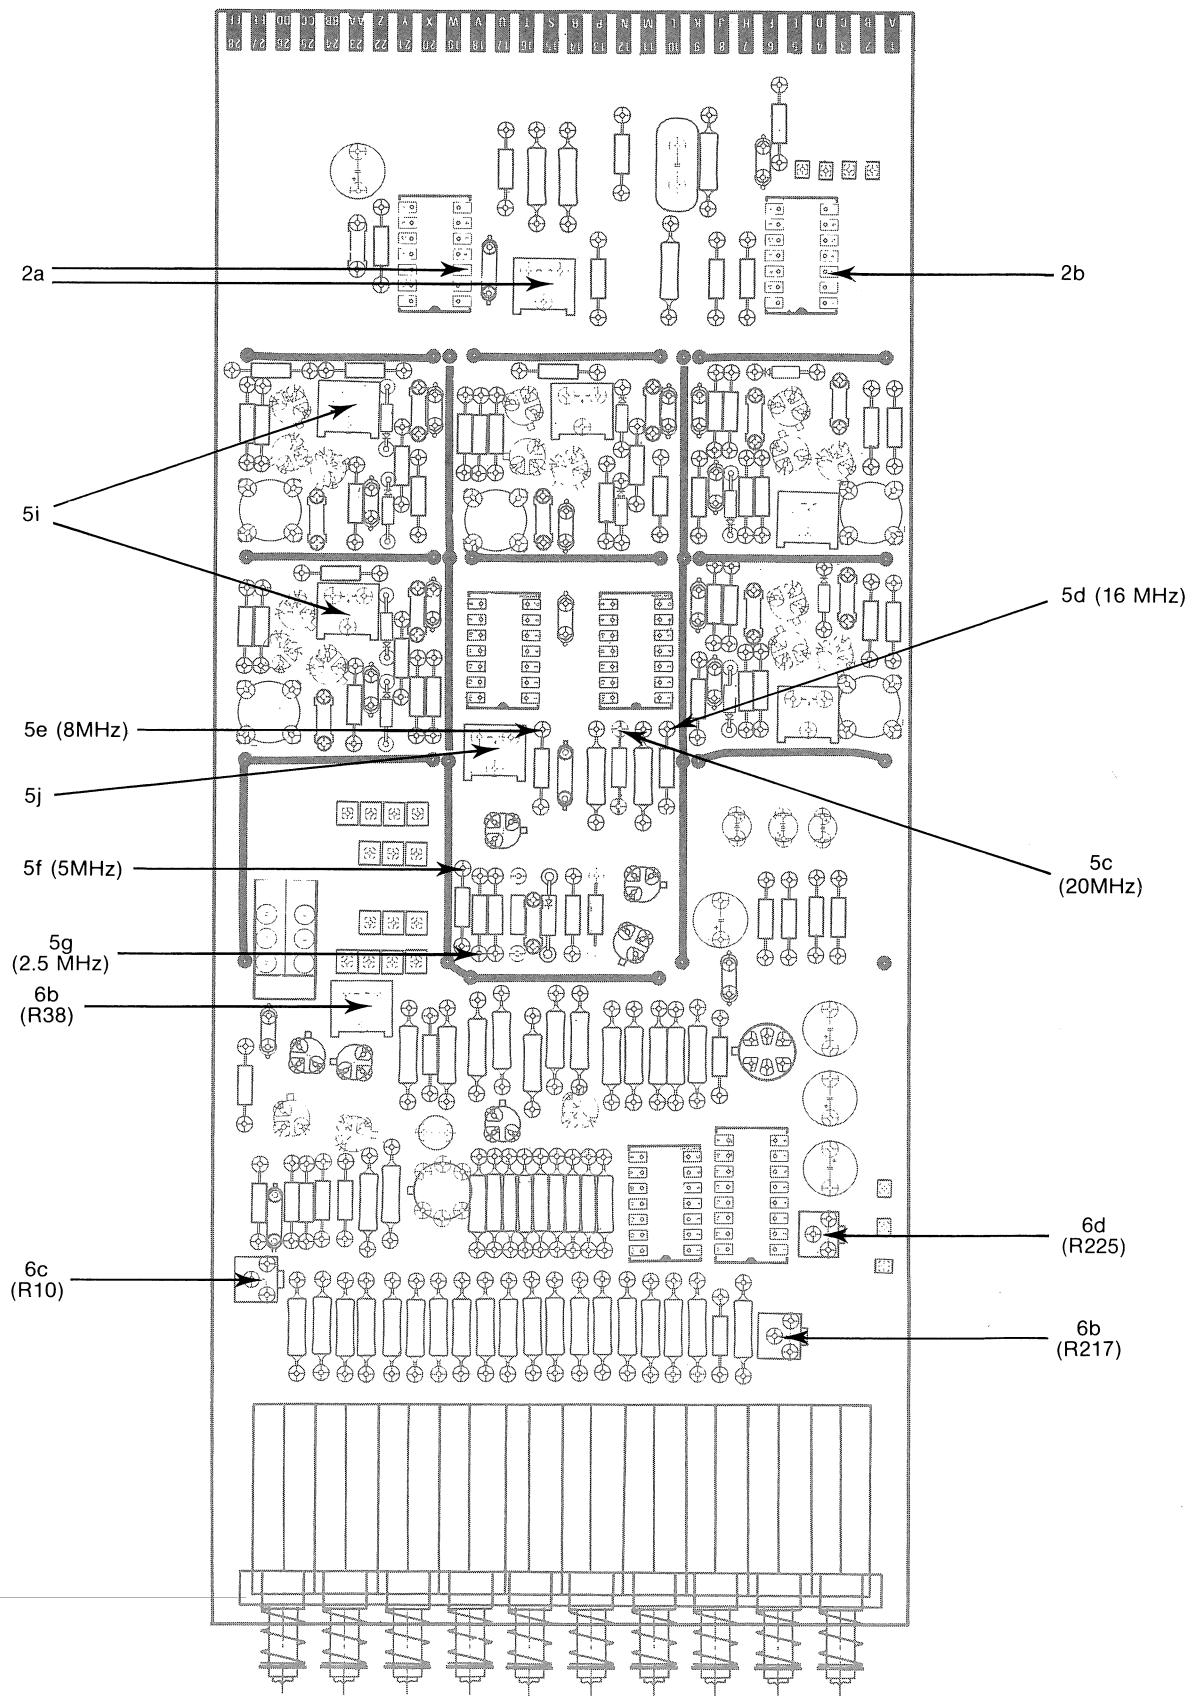
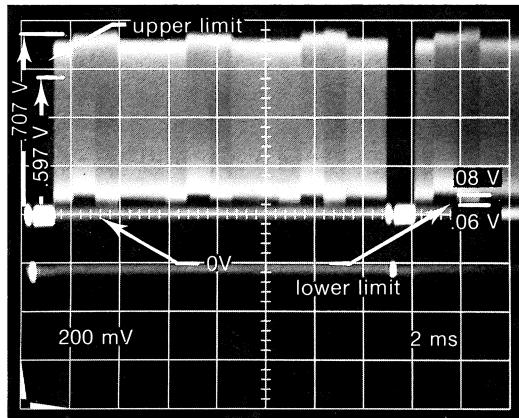

Fig. 2-3. The Oscillator and Gray Scale Board; Calibration and test points are indicated.
Fig. 2-10. The Multiburst Composite Video waveform following adjustment.
a. Refer to Fig. 2-3 where calibration points of the Oscillator and Grayscale board are noted. With the multimeter set to read in the +15 volt region, connect the measurement probe to U181 pin 3. Attach the ground probe to the generator chassis. Adjust R182 until the value measured falls within the range +14.85 to +15.15 volts. With the oscilloscope probe at the same test point, confirm that ripple is less than 5 mV. These specifications must remain intact as the line voltage is varied from 104 to 126 Vac.
i. Referring again to Fig. 2-3, adjust the oscillator amplitudes by means of R255, R266, R74, R59 and R176; each amplitude should fall in the range 0.579 to 0.707 V.
- j. Adjust R151, located in Fig. 2-3, to cause the field amplitudes to fall within 0.06 to 0.08 V on the low end and 0.614 to 0.814 on the high end, relative to the 0.0 V blanking level (Fig. 2-10).
a. Refer to Fig. 2-3 for location of the Oscillator and Grayscale board test and calibration points. The oscilloscope should be set up as in step 5h.